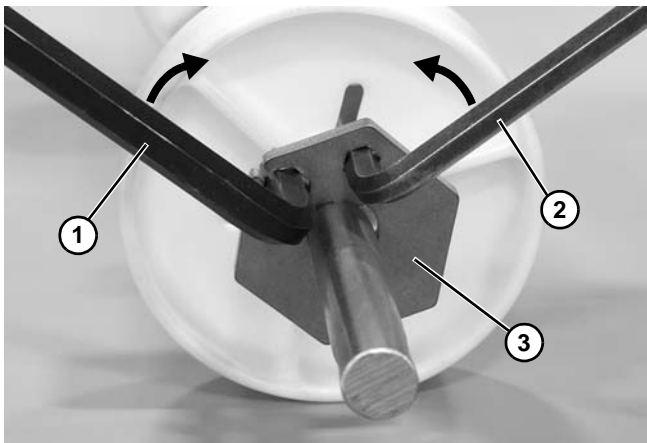

Figure 32
- a. Insert an 8 mm (Figure 32, item 1) and 6 mm (Figure 32, item 2) hex wrench into the retainer plate.
- b. Move wrenches toward each other to open the retainer plate (Figure 32, item 3) and install onto the shaft. Position retainer plate where needed.